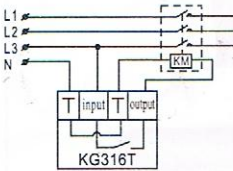

Figure 4 Three-phase working mode (conductor's coil voltage is AC220V)
a) If the control conductor's coil voltage is AC380V 50Hz, then the mode of connection is shown as in Figure 4.